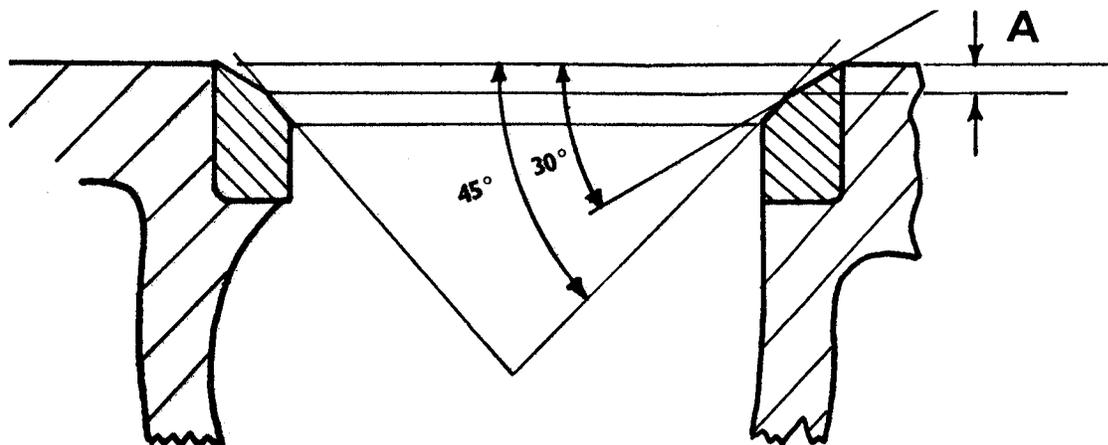

Fig. E.11. Showing Flare to be cut at 30° .
6. Using the valve guide bore as a pilot, machine the "flare" to the dimensions in Fig. E.11.
- (a) Machine to the dimensions given in Fig. E.11 and continue as in stages 7 and 8.